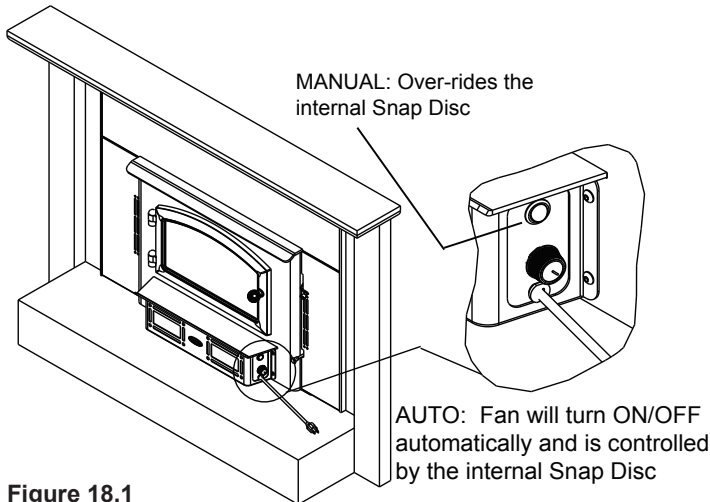

Figure 18.1
1. The blower will turn on/off automatically when set to AUTO (**Figure 18.1**).